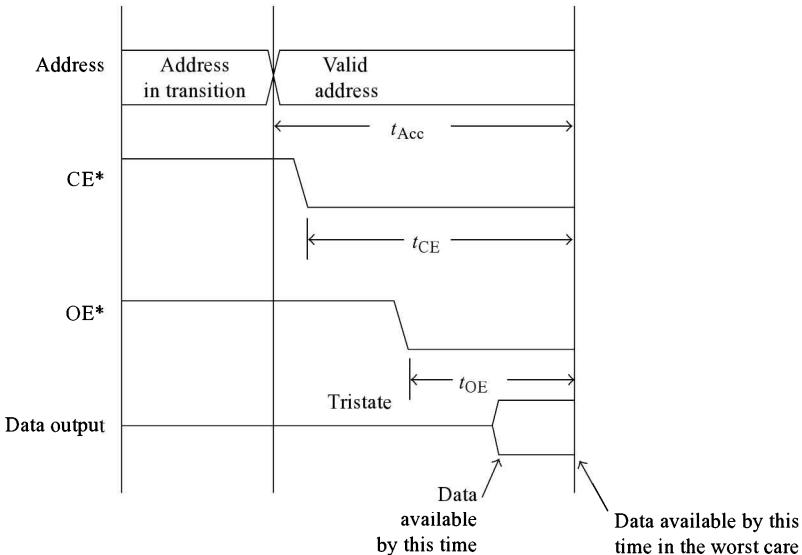
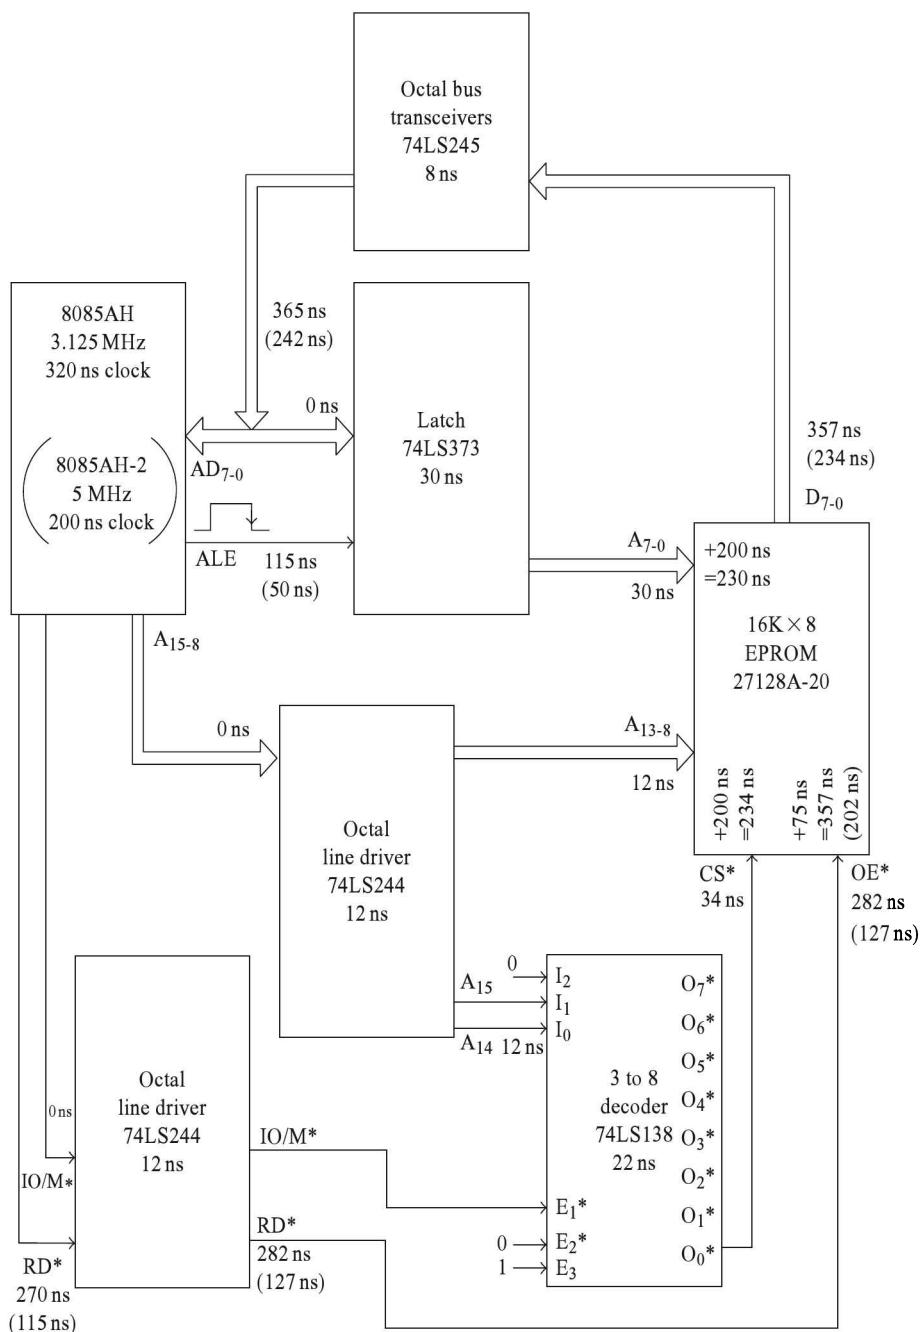

Fig. 13.17
Fig. 13.19 Delays involved in accessing 27128 EPROM in ALS kit
As an example, let us check up if the 27128A-20 16K \times 8 EPROM chip can be used without any wait states with a 8085 operating at 320 nS clock period. For interfacing a memory chip, the most important timing parameters to be considered are t_{Acc} , t_{CE} , and t_{OE} . The memory read timing for a typical EPROM chip is shown in Fig. 13.17.
Fig. 13.19 shows the actual interfacing details of 27128A-2 chip in the ALS kit. Using this figure and figures 13.17 and 13.18, we can assess the compatibility of this chip with 8085AH working with 320-nS clock period.
Can this chip be interfaced with (assume interface circuit of Fig. 13.19):
14. Calculate the number of wait states needed if 8085AH-2 working with a T state of 200 nS is required to be interfaced with a memory chip having the following specifications. Assume interface circuit of Fig. 13.19.